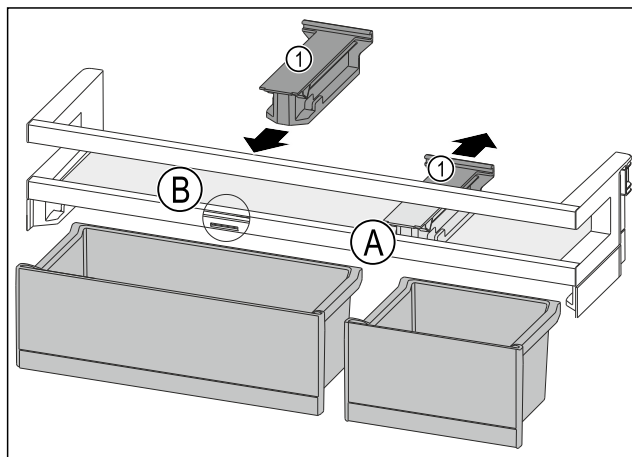

Fig. 97
- Take off the holding part Fig. 97 (1) in position Fig. 97 (A) backwards.
- Insert the holding part Fig. 97 (1) in position Fig. 97 (B).